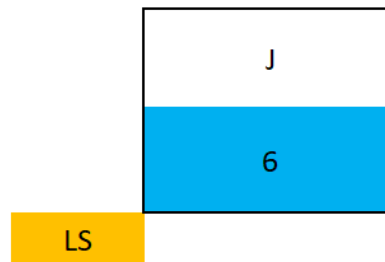

Figure 9. The LF time is positioned outside the bottom right corner of a node.
Finally, the node reserved the bottom left corner for the late start (LS) – see Figure 9.